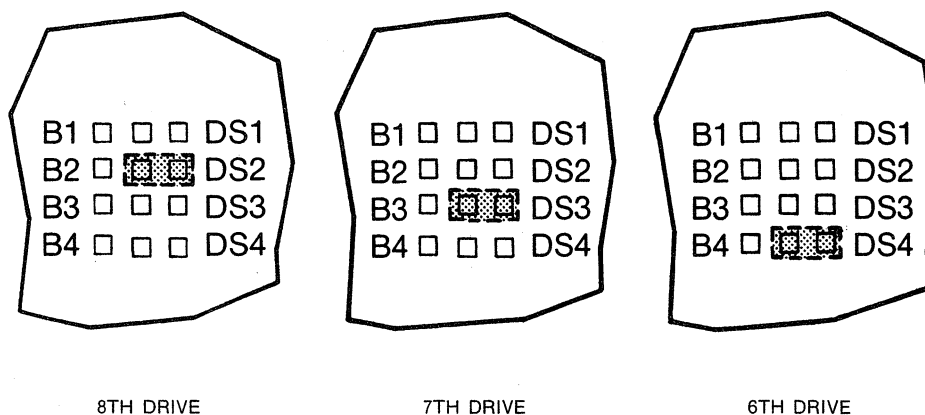

FIGURE 3-10. DRIVE SELECT DECODE JUMPER PLUGS
6. Install a jumper plug at DS2, DS3, and DS4 on each of the three drives located physically farthest away from the controller. See Figure 3-10. This will provide select line terminations (150-ohm resistor pull-up to +5 VDC).